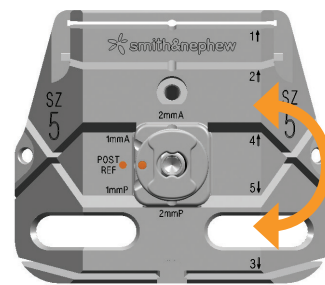

Figure 29
2. Use the Resection Check to check the location of the anterior cutting slot. Make any necessary anterior/posterior adjustments to avoid over stuffing the patella femoral joint, over stuffing the flexion space or femoral notching (Figure 29).